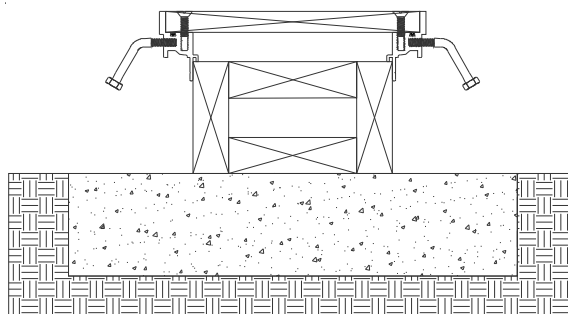

Figure 5
STEP 8. Place a temporary wooden cover (plywood is recommended) into the frame, attaching it to the frame as shown in Figure 5. This procedure is recommended to protect the cover plate from concrete splatter during the pouring and finishing of the concrete.